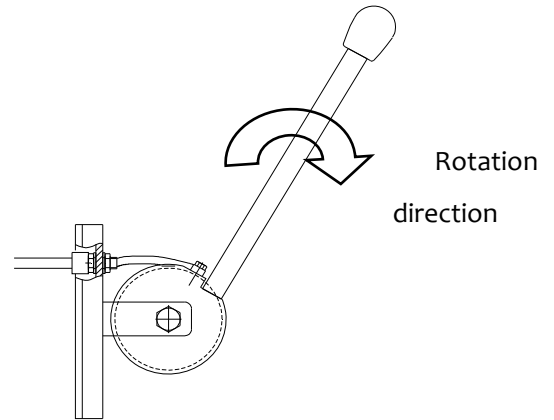

Fig.40 Released brake handle
2. Pull a brake release handle to make it rotate around its support point as shown in Fig.40. At this moment, the brake release action is completed. Pay attention to car sliding speed and the leveling of lift car to floors at the moment of brake release. After the leveling is completed, immediately release brake handle to stop brake release.